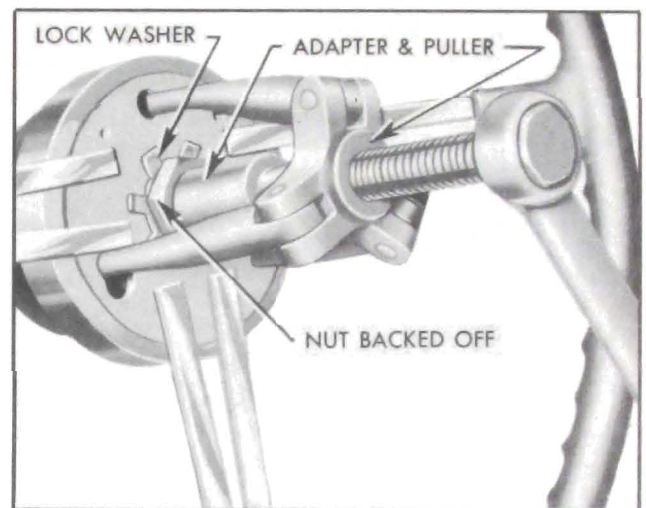

Figure 7-9—Removing Steering Wheel with Puller J 1566
4. Flatten the tab of lock washer, then back off steering wheel nut several turns but *do not remove nut*. Apply Puller J 1566 and adapter (fig. 7-9) and pull wheel back to nut. NOTE: *If wheel hub is very tight on shaft, apply a moderate strain with puller then tap end of puller screw to break hub loose from shaft without distorting wheel hub*. Remove puller, nut, and lock washer, then remove steering wheel.